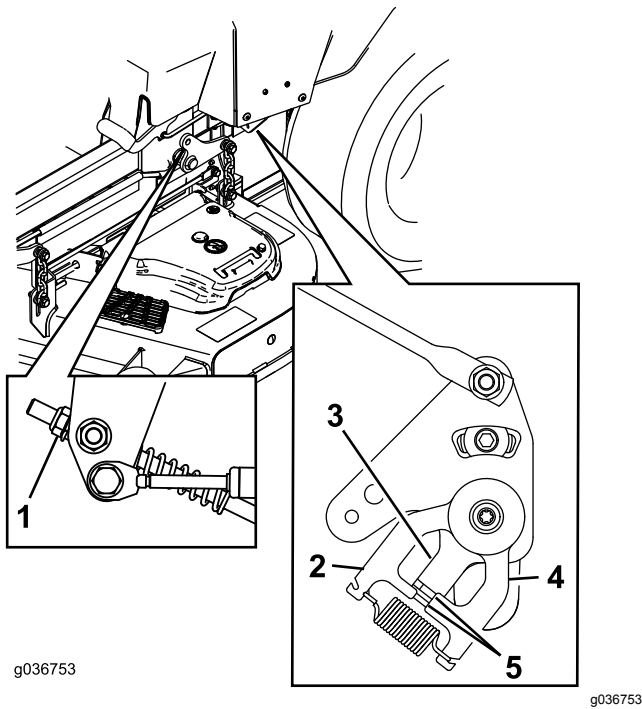

Figure 70
11. Adjust the pump-control-rod lengths by rotating the nut in the appropriate direction until the wheels slightly creep in reverse (Figure 70).